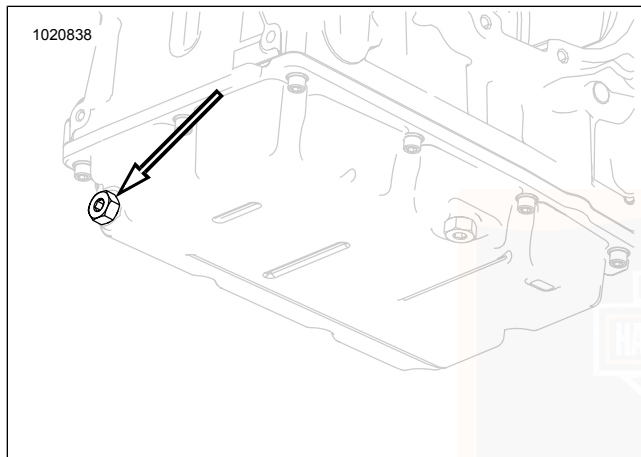

Figure 54. Engine Oil Drain Plug
3. See Figure 54. Remove the oil drain plug (2) and O-ring. Allow oil to drain completely.